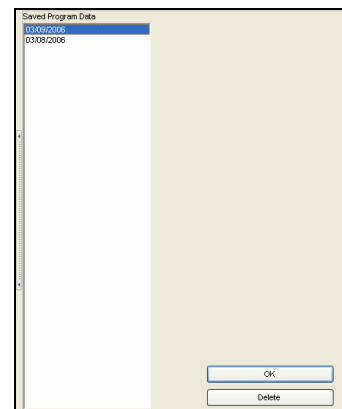

Figure 16.1.4B
3. Select the most recent date in the “**Saved Program Data**” window by clicking on it (Figure 16.1.4B).